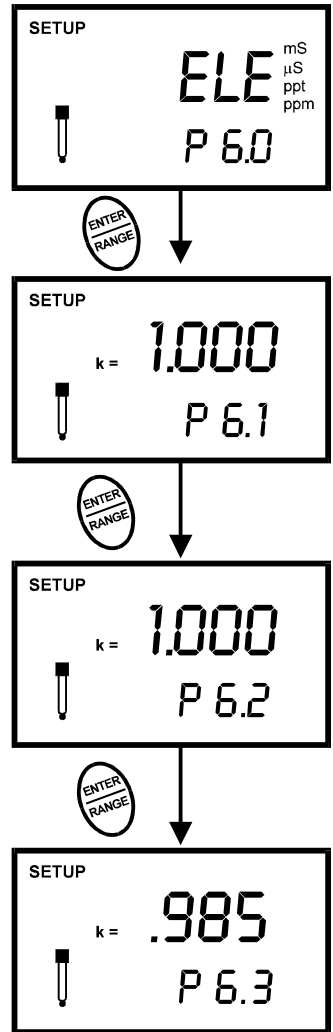

Figure 34 - View Probe Data for Each Measurement Range
- 5 When you have scrolled through all probe data, you will automatically return to the subgroup menu. Press the **CAL/MEAS** key to return to measurement mode. See Figure 34.